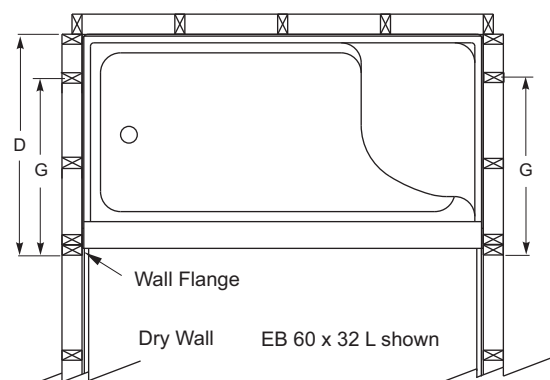
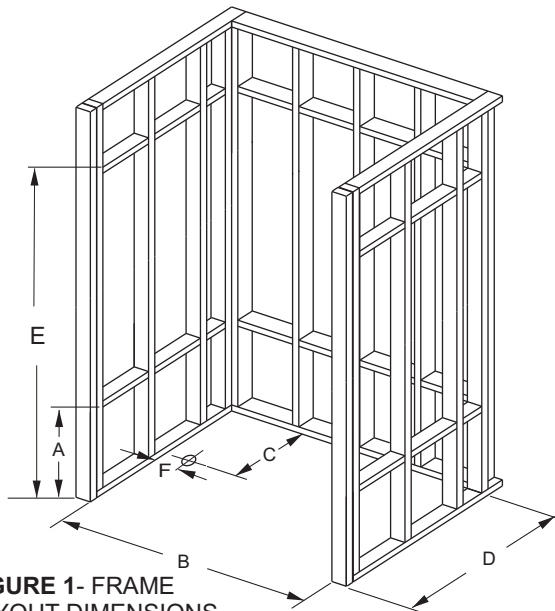

FIGURE 2 - SHOWING THE TOP VIEW OF THE BASE IN THE ALCOVE.
FIGURE 1 - FRAME LAYOUT DIMENSIONS
- The Shower Base is to fit into framed alcove as shown in Figure 1 and Figure 2.
- Framing: Inside dimension of the studded alcove are to be as specified in Figure 1.
- Build solid framing to the dimensions in figure 1.
- Make sure that the vertical and horizontal studs on the side wall is at the dimension as shown in figure 1 and 2.
- The drain location on the shower base is shown in figure 1.